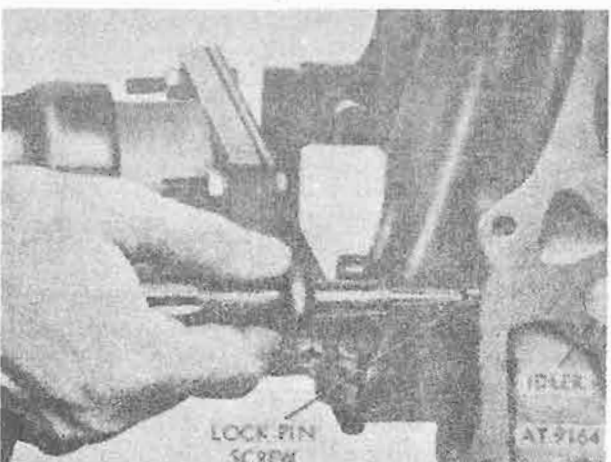

Figure 8-31. Countershaft and idler shaft lock-pin screw.
- d. Remove two countershaft lockpin screws (fig. 8-31).